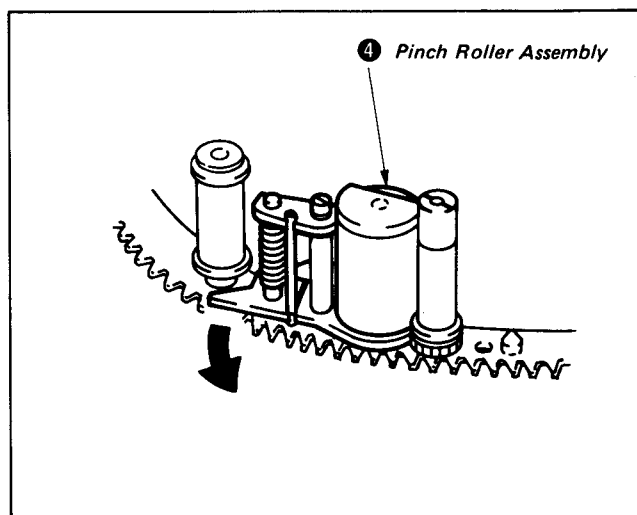

Fig. 8-17.
- 4) Rotate the pinch roller assembly ④ in the arrow direction. (See Fig. 8-17.)